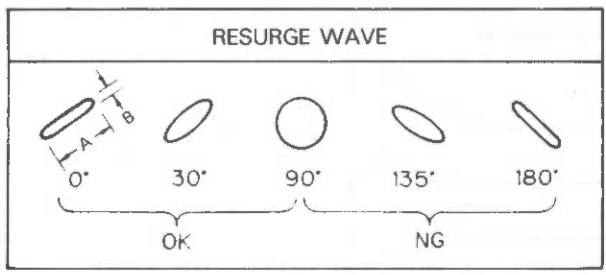

Fig. 2-2
- (2) Playback the test tape; adjust the azimuth screw so that section A of the resurge wave form is maximum and section B is minimum. **Fig. 2-2**